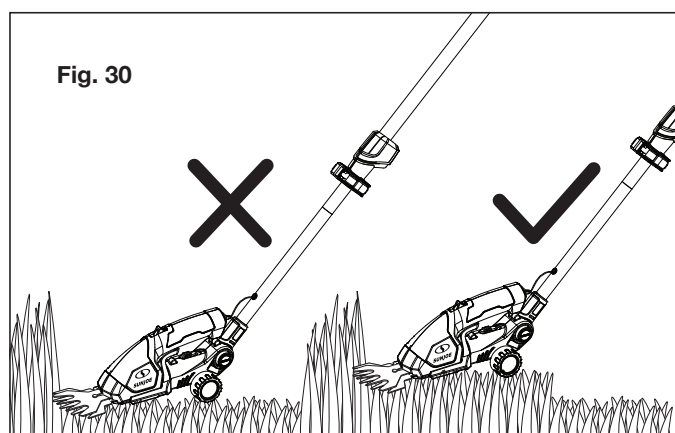

Fig. 30
- Cut repeatedly from up and down in layers when the grass is very high (Fig. 30).